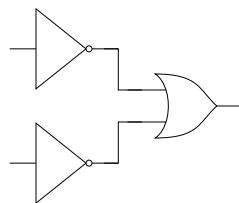

Fig. 3.10
24. The following combination of logic gates in Fig. 3.10 represents the operation